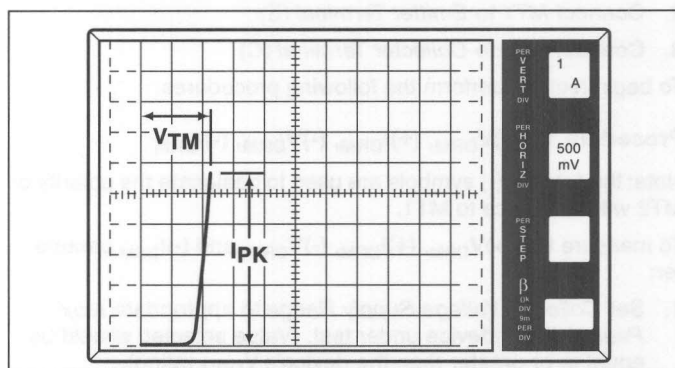

Figure 19.18 V_{TM} (Forward) is equal to 1.1 volts at I_{pk} equal to 5.6 amps
2. Increase *Variable Collector Supply Voltage* until breakover occurs. (See Figure 19.18.) The voltage at which current begins to flow and the voltage does not increase is the V_{BO} value.
4. To measure V_{TM} , follow along horizontal scale to the point where the trace crosses the $I_{T(peak)}$ value. This horizontal distance is the V_{TM} value. (See Figure 19.18.)